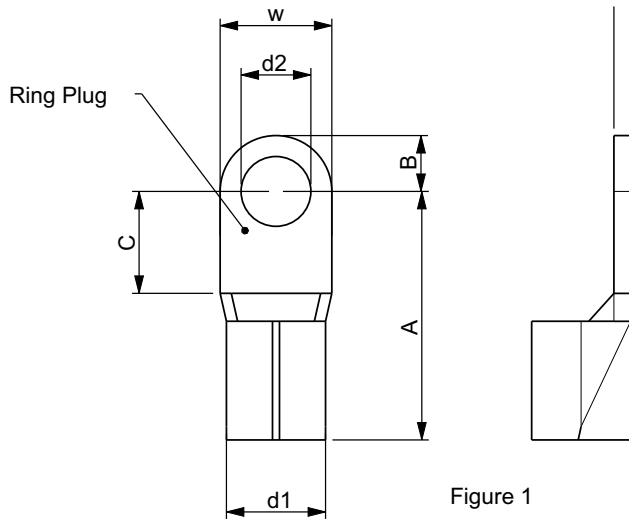

Figure 1
- Ring lug is required for main circuit terminal connection, please refer to **Figure 1** for the specifications of the ring lug.